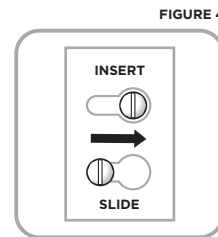

FIGURE 4
- Align the keyholes in the fixture with the two screws and slide into place (see Figure 4).